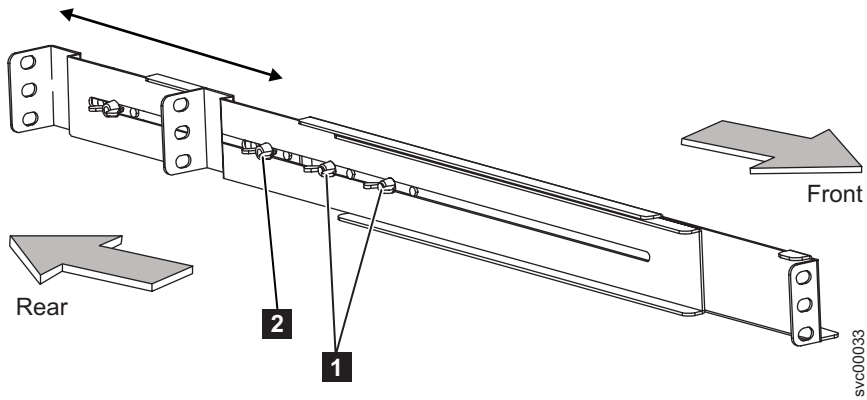

Figure 316. Adjusting the rail depth on the 2145 UPS-1U
4. Loosen the assembly wing nuts (**1** in Figure 316 on page 282) on both rail assemblies and adjust the rail size to the depth of your rack. After you adjust the depth, tighten the assembly wing nuts as much as possible while still allowing some movement.